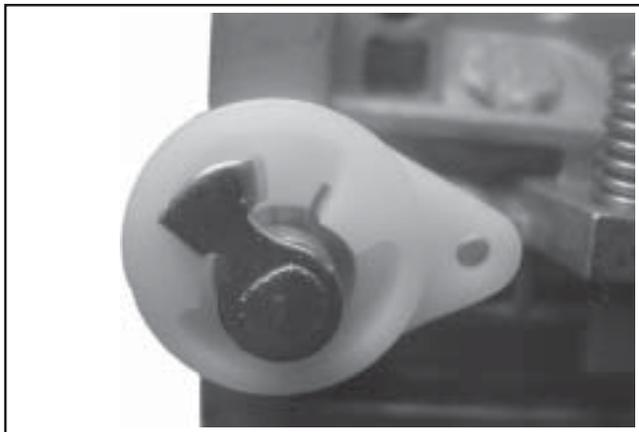

Figure 5-33. Choke Details.
4. Note the position of the spring legs and the choke plate for correct reassembly later. See Figure 5-33. Remove the two screws attaching the choke plate to the choke shaft. Pull the shaft out of the carburetor body and discard the removed parts.
10. Slide the choke shaft and spring into the carburetor. Pivot (preload) the shaft and set the inner leg of the spring, against the formed stop within the choke lever as originally assembled. See Figure 5-33. The opposing leg of the spring must still be between the formed "stops" of the choke shaft.